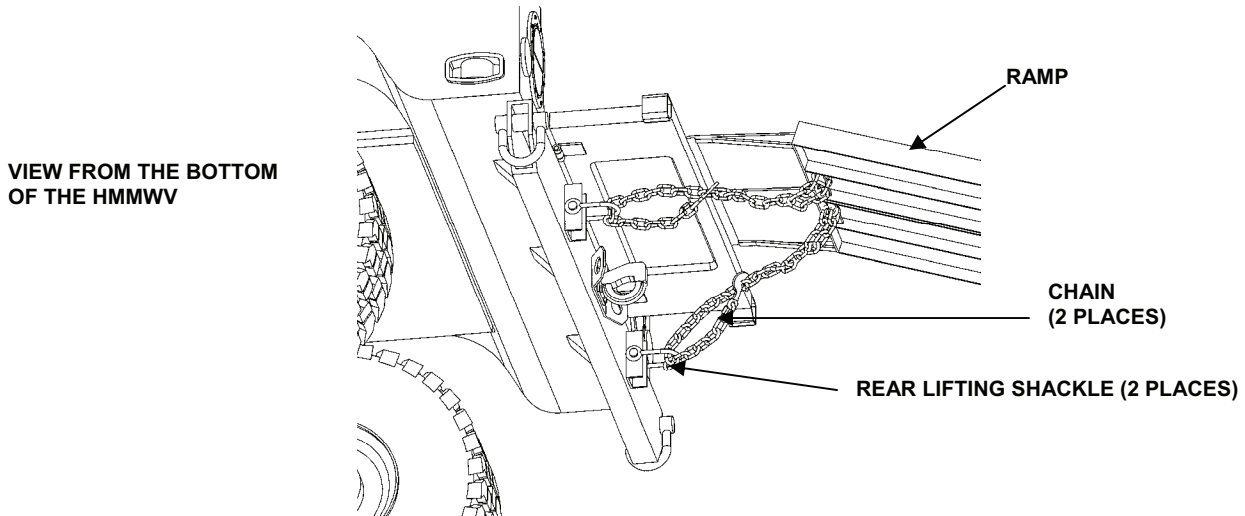

Figure 4. Securing Ramp to Vehicle.
6. Pull the chains taut and place hooks over links. See Figure 4.